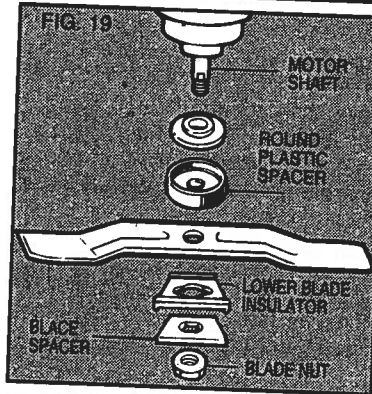

FIG. 19
4. Remove blade spacer, lower blade insulator and blade. See (Fig. 19).